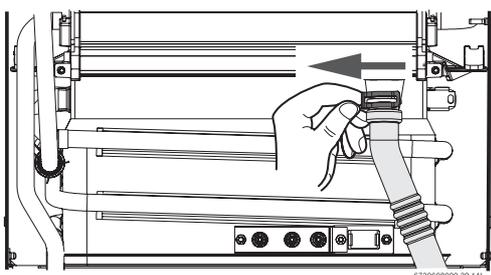

Fig. 19 Disconnect drain tube
- ▶ Remove the clip and disconnect the drain tube, see Fig. 19.